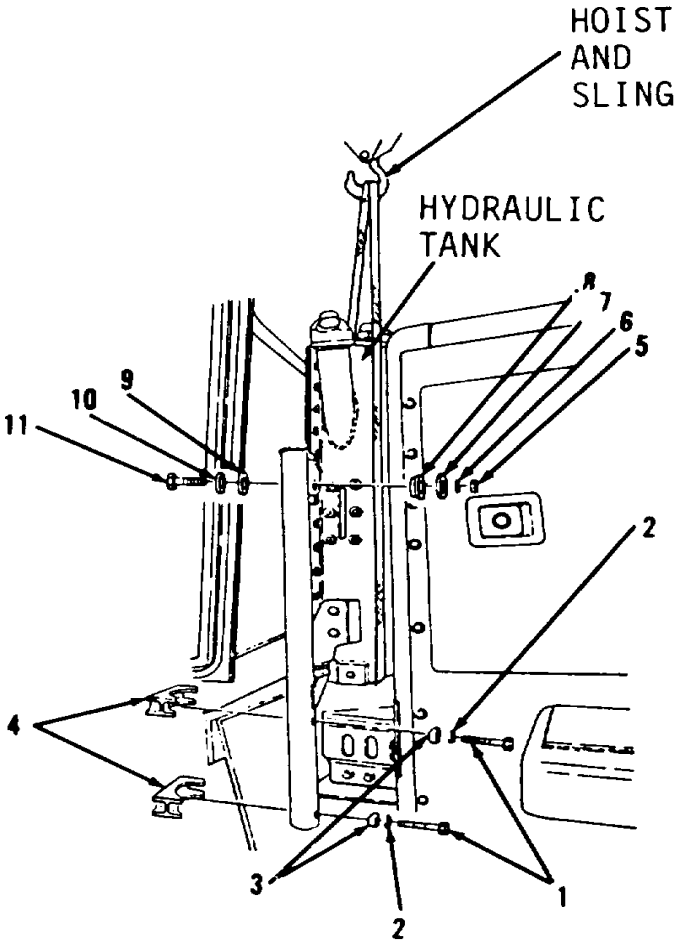

Figure 10-150.
- 2. Remove two bolts (1), washers (2), spacers (3) and blocks (4, Figure 10-150).
- 3. Remove nut (5), washers (6 and 7), mounting (8), washers (9 and 10) and bolt (11).